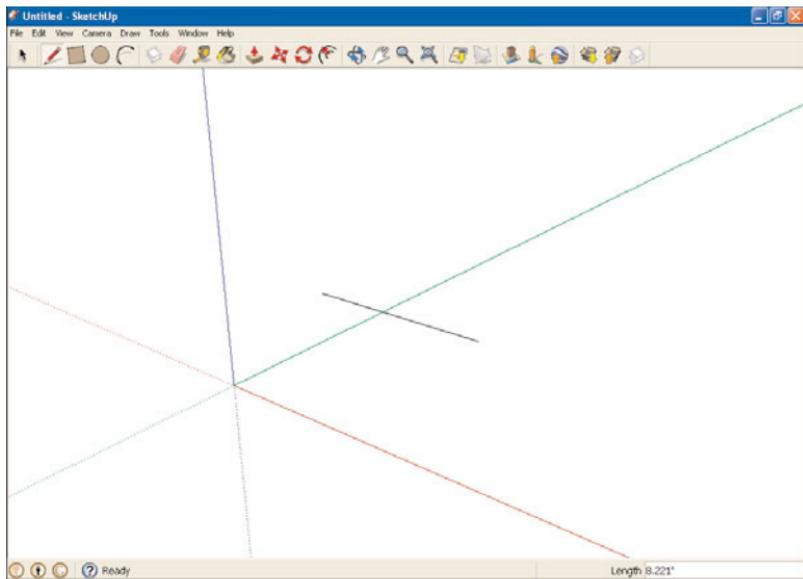

FIGURE 3.1 A new edge.
7. Release the mouse button. When you do, a line appears from the first anchor point to the current location of the mouse, as shown in Figure 3.1.